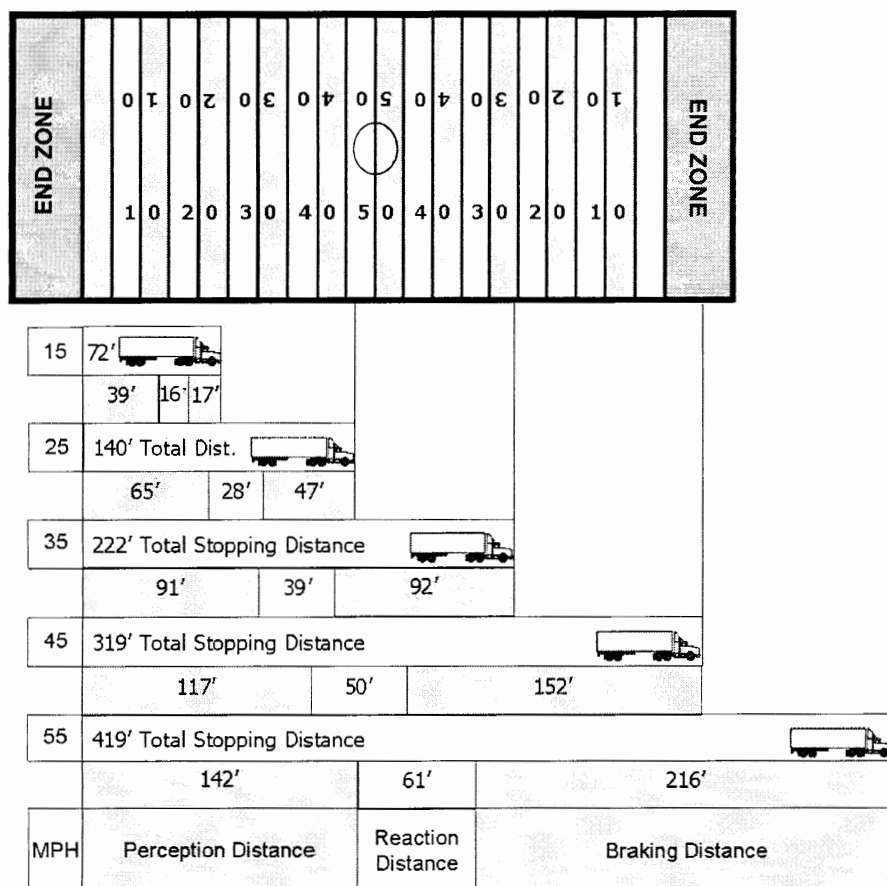

Figure 2.11
**Total Stopping Distance.** The total minimum distance your vehicle will travel, in ideal conditions with everything considered including perception distance, reaction distance and braking distance, until you can bring your vehicle to a complete stop. At 55 mph, your vehicle will travel a minimum of 419 feet. See Figure 2.11